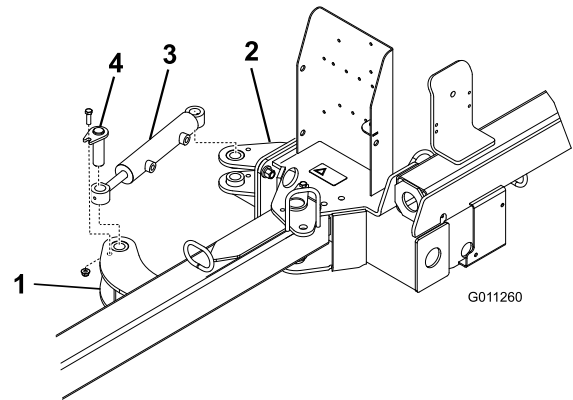

**Figure 5**
- Mount the rear actuator tab to the sweeper frame with 4 bolts (1/2 x 2 inch), 8 flat washers (.531 x .063), and 4 locknuts (1/2 inch). Position the components as shown in Figure 5.